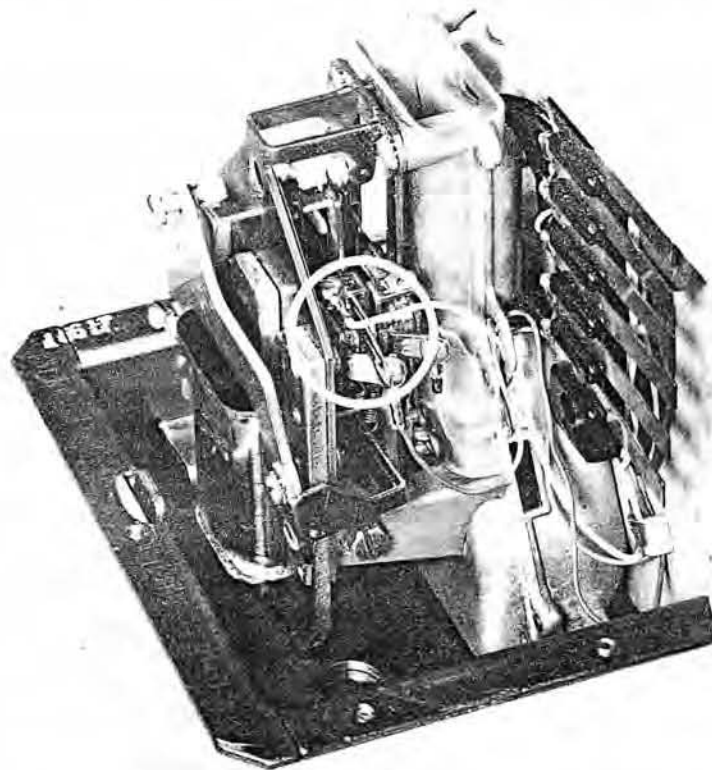

Figure 3. Use of Paper Clip to Bypass Ground Contacts.
- (2) With the coin trigger unoperated, provide a substitute path to ground the relay. If a clip lead is available, connect it to relay terminal G and to the resistor lead which terminates at the first and fourth contact springs. If no such lead is at hand, slightly widen the larger U-bend of a common #1 paper clip and insert the clip under the bent portion of relay terminal G as shown in Figure 3, so that it touches the edge of the clamped portion of the stop spring for the fourth contact spring. Be sure the clip does not touch relay terminal 3, and is not in-